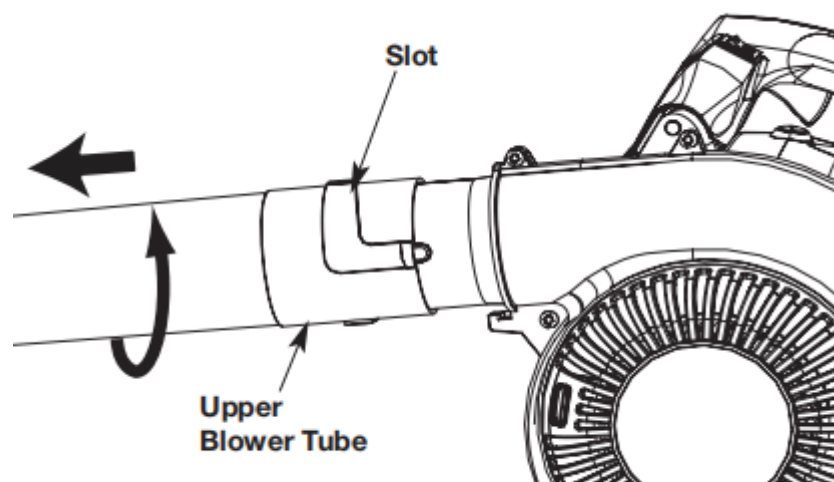

Fig. 3
- Twist the upper blower tube counterclockwise until it unlocks from the blower outlet (Fig. 3).